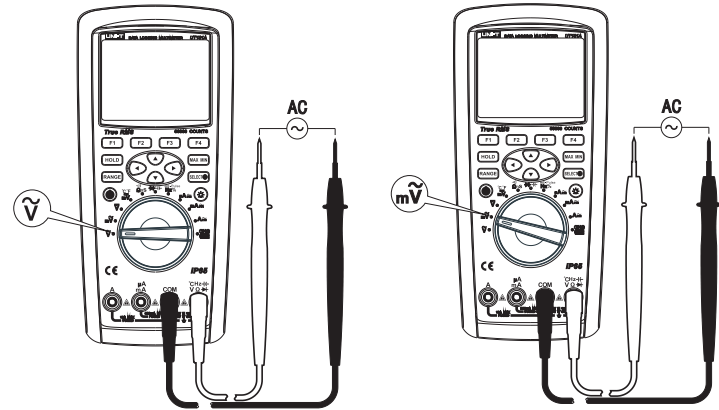

Figure 5
- 2) Set the rotary switch to \tilde{V} or $m\tilde{V}$ as shown in Figure 5. Connect the test leads to the power or load under test in parallel.
- 2) Set the rotary switch to \checkmark . Connect the test leads to the power or load to be tested in parallel as shown in Figure 5.